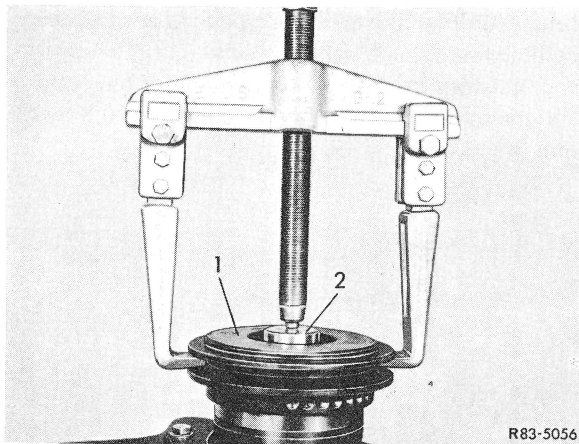

Figure 8
3 Fit guide piece (2) into bore in compressor head (Fig. 8).
4 Remove pulley (1) with puller (3) (Fig. 8).